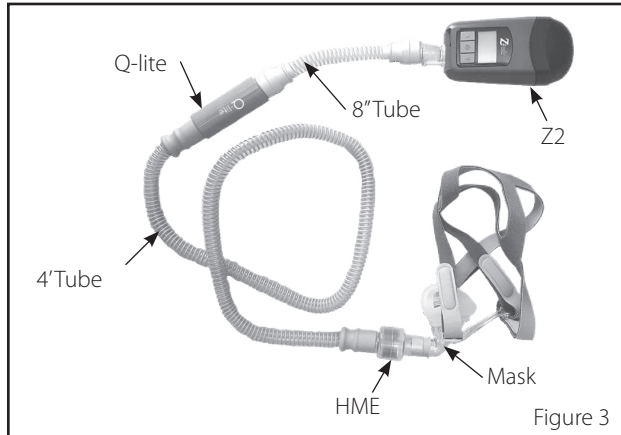

Figure 3
2. Connect the other end of the **8" CPAP Tube** to one end of the **Q-lite**. Connect the other end of the **Q-lite** to the **4' CPAP Tube**. Connect the end of the **4' CPAP Tube** to the **HME** and the **HME** to the mask. (Figure 3)